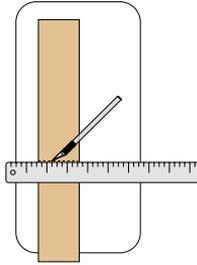
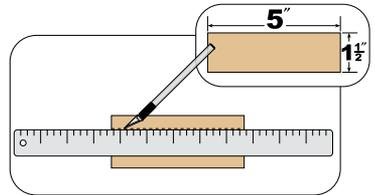

Figure 4
Figure 5
4. Take the third piece of wood and cut a 5" piece off one end (Figure 4). Then, use the knife and straightedge to cut 1/2" off the side of the 5" piece so its dimensions are 5" x 1-1/2" (Figure 5).